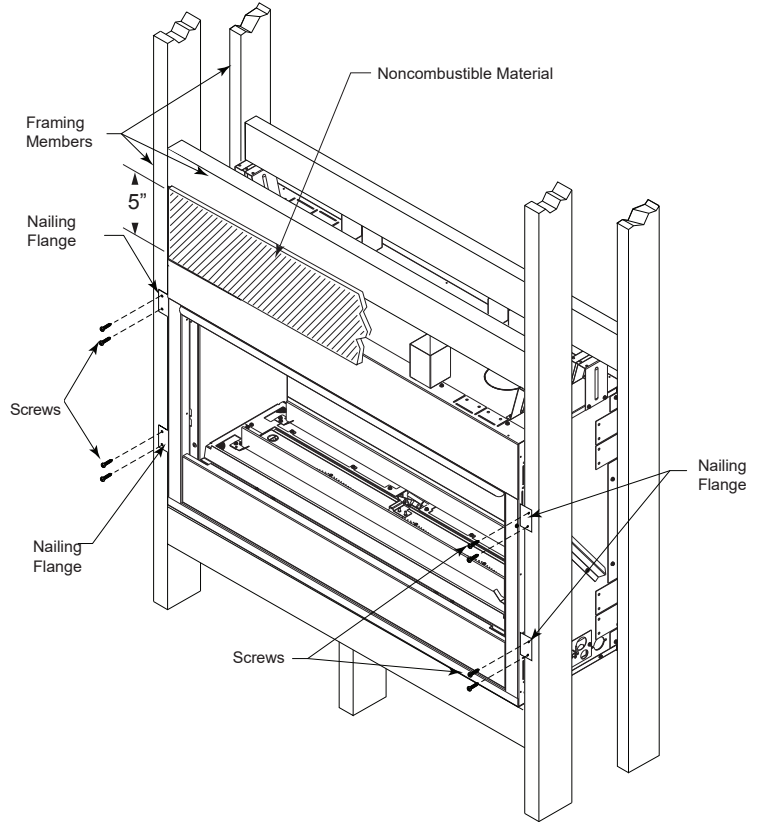

Figure 8. Secure Fireplace to Framing Studs
The fireplace must be secured to the framing studs as shown in Figure 8. Use eight (8) screws to attach fireplace to framing. The side nailing flanges are 1/2" or 5/8" to accommodate different wall thickness.